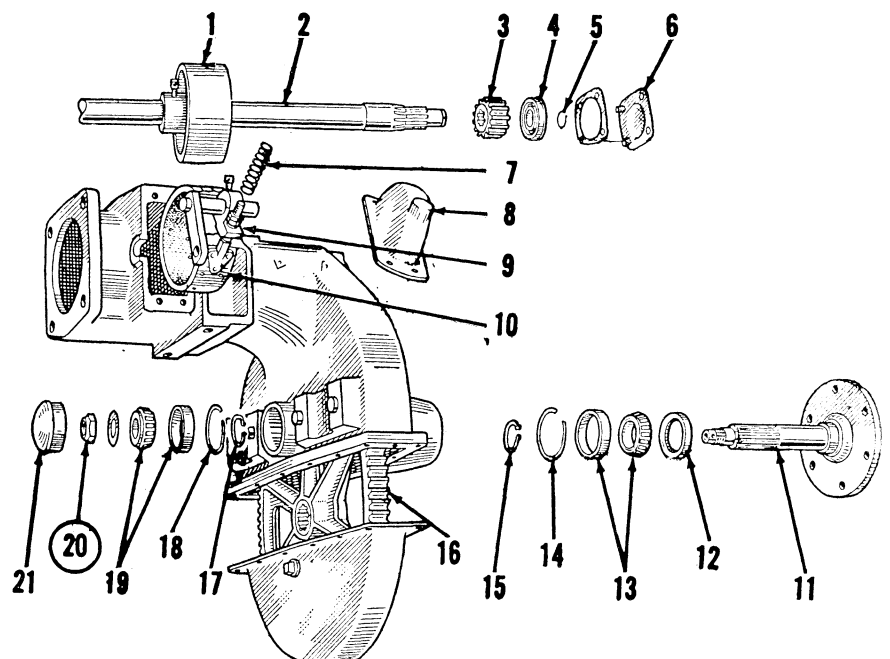
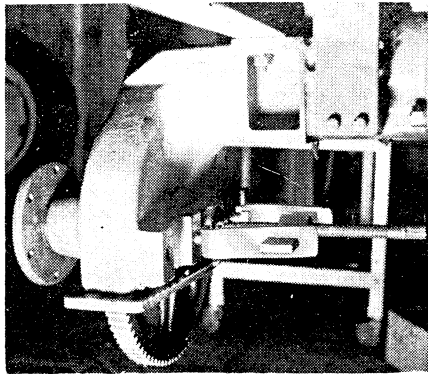

Fig. MH27—Pony final drive assembly. Wheel axle shaft bearings are adjusted by nut (20). Brake drum (1) is keyed to final drive shaft (2).
Fig. MH28—Removing Pony wheel axle shaft and bull gear. Puller screws are threaded into drawbar mounting holes in housing.
59. **MASTER (BULL) GEAR AND WHEEL AXLE SHAFT.** Bull gear or wheel axle shaft may be removed without detaching final drive housing from tractor. Place jack under transmission and remove rear wheel and drawbar. Take down bull gear cover; remove dust cap (21-Fig. MH27) and staked nut (20). Remove inner bearing cone (19) and the bull gear inner snap ring (17) from the shaft. Install a puller as illustrated in Fig. MH28; then push the wheel axle shaft out of bull gear and housing. Outer bearing cone (13-Fig. MH27) and oil seal (12) will come out with the wheel axle shaft. Inner and outer bearing cups (19) and (13) can be pulled or driven from housing for renewal. Bull gear (16) can be reinstalled in reverse of its original position so that opposite, unworn sides of teeth are in contact with pinion and thus increase life of bull gear. When reassembling, wheel axle shaft bearings should be given a slight amount of pre-load but not enough to compress the housing. Stake nut (20) into groove of wheel axle shaft to lock. Note: If the complete final drive is being overhauled, it is advisable to install bull gear and wheel axle shaft first so that pre-load on bearings can be felt.